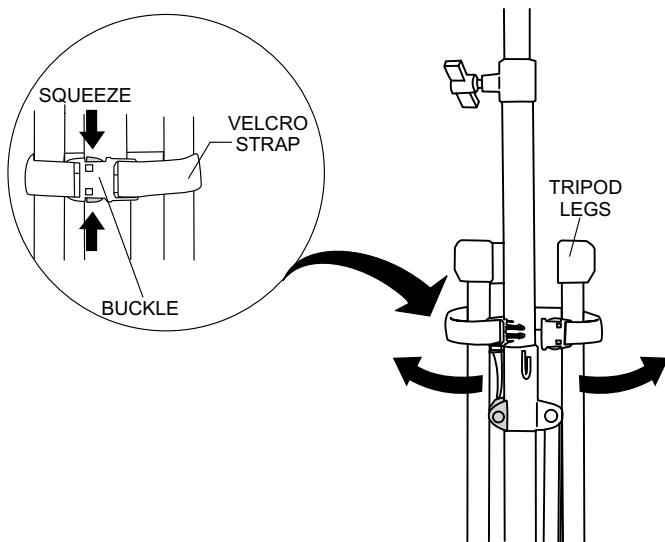
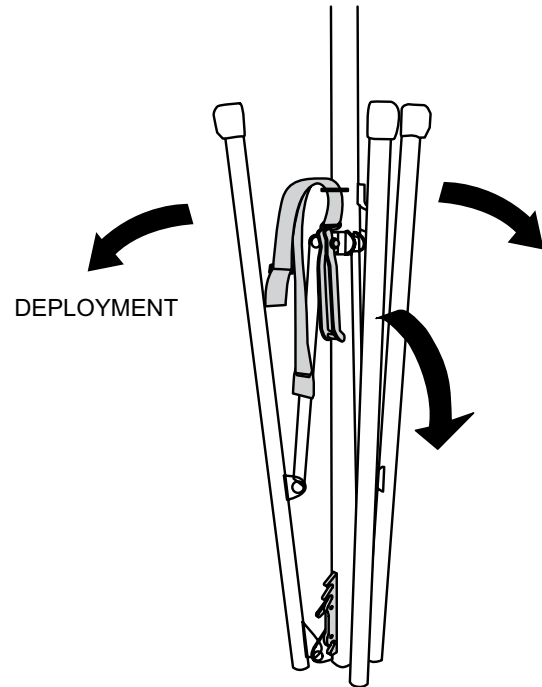

Figure 8. Velcro Strap (Open)
Figure 9. Tripod Deployment
2. Remove tripod from its carrying case. The tripod legs are secured by a black velcro strap (Figure 8). Squeeze both tabs on each side of buckle to unlock strap and allow tripod legs (Figure 9) to be deployed.